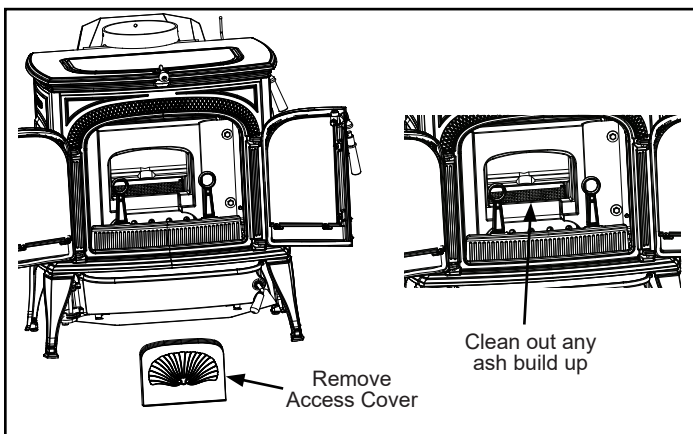

Figure 3.6 - Inspect and clean out ash accumulation behind the combustion system.
- Inspect for and remove ash build-up behind the combustion package. This should be done in conjunction with annual cleaning of the chimney connector. Inspect the passage behind the combustion package (a mirror will be helpful) and vacuum away ash using a flexible vacuum hose inserted in the passage. (Figure 3.6)